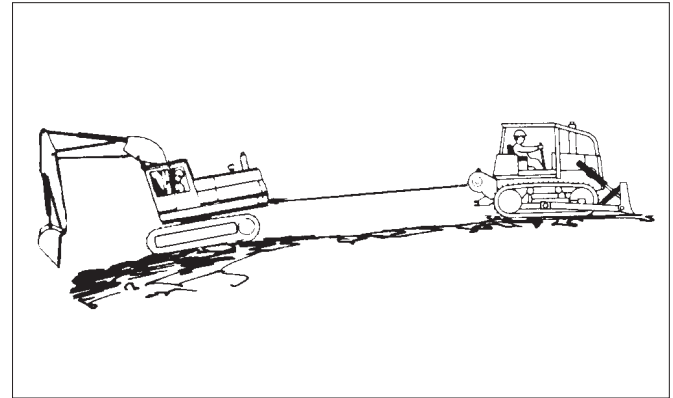

Figure 20 - Moving a Disabled Vehicle (Step B)
B. A tractor or skidder equipped with a winch can be used to pull another vehicle from mud or other areas where it cannot move using only the drive wheels or tracks. See Figure 20. Use the following procedure: